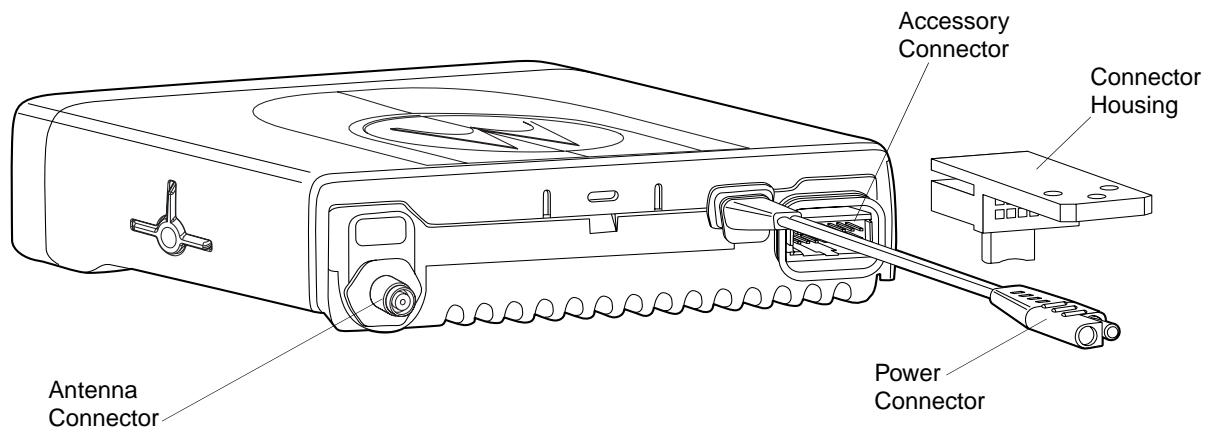

Figure 4-1. Connections to the Back of Radio
An accessory connector on the rear of the radio (see Figure 4-1) enables you to attach different accessories required for the installation.
2. Connect the antenna cable connector to the radio antenna connector on the rear of the radio. (See Figure 4-1.)
3. To complete your radio installation, plug the power cable into the radio power connector. (See Figure 4-1.)
1. Make the necessary connections to the radio for power, antenna, and accessory connector as shown in Figure 4-1.